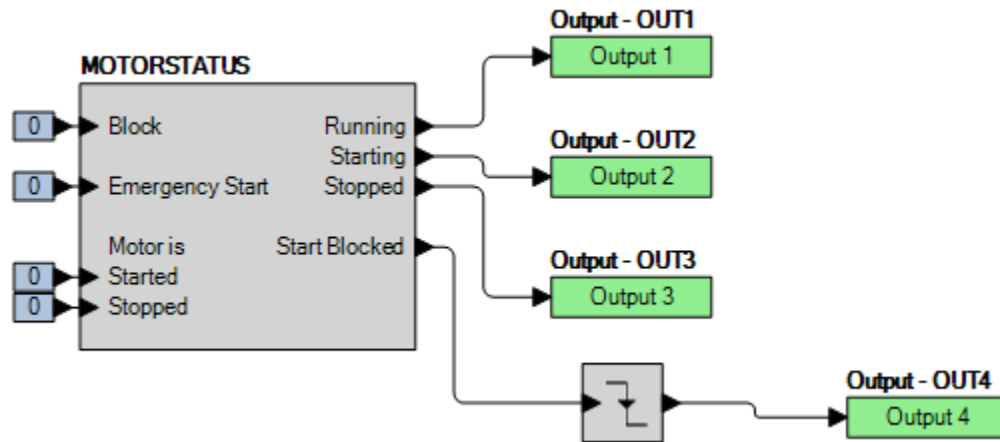

Figure 72-1. BESTlogicPlus Settings
Step 2: Use BESTCOMSPPlus to configure the BESTlogicPlus Programmable Logic shown in Figure 72-1.